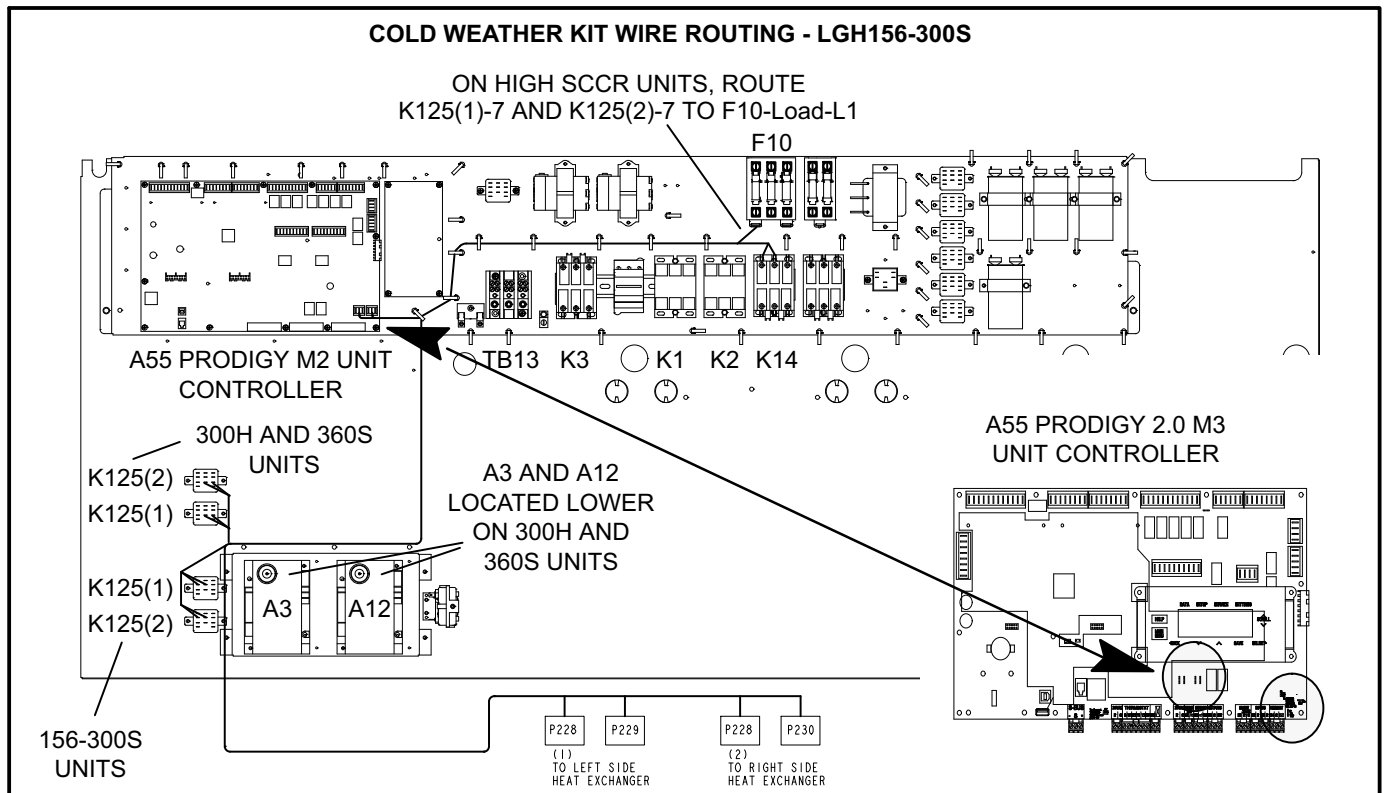

FIGURE 15
- 3- Install both K125 relays in control area above compressors. Secure with #8 screws. See figure 15.
- 4- Locate harness labeled 106051-01 for standard SCCR units or 105722-01 for high SCCR units. Route as shown in figure 15. Secure with wire ties. Discard unused harnesses.
- 4- Locate harness labeled 604785-01 and route as shown in figure 15. Secure with wire ties. Discard unused harnesses.